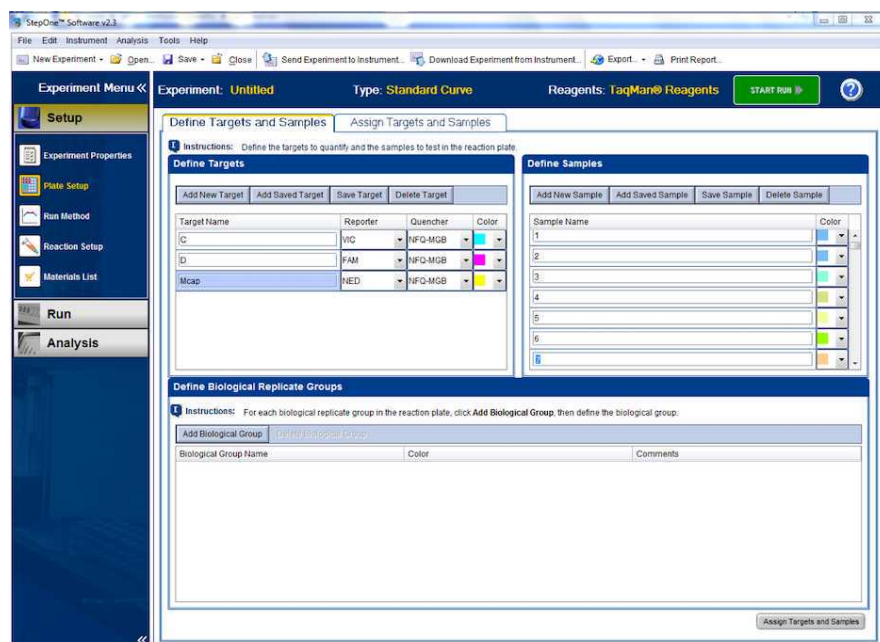

Figure 2. Defining samples
- Now on "Define Samples", on the right side, list all your sample names (**Figure 2**).